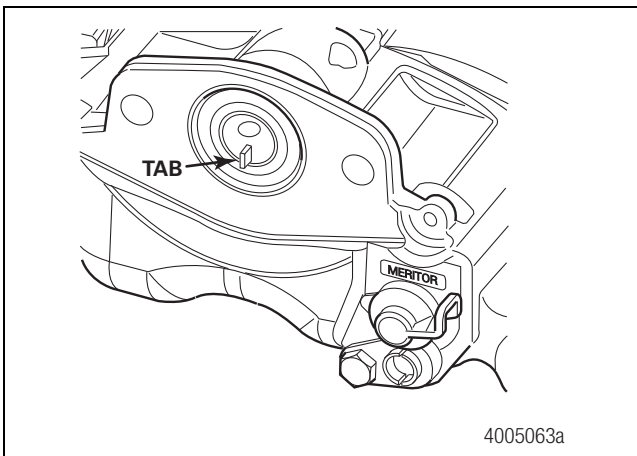

Figure 7.4
3. Before you install the air chamber onto the caliper assembly, ensure the perforated transit plug is removed from the caliper chamber seal by pulling the tab. Figure 7.4 and Figure 7.5.